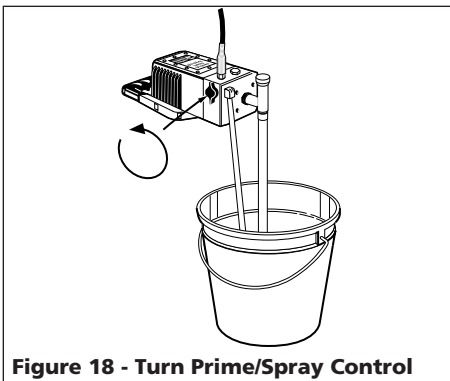

Figure 18 - Turn Prime/Spray Control
1. Turn Prime/Spray Control to prime position (See Figure 18).